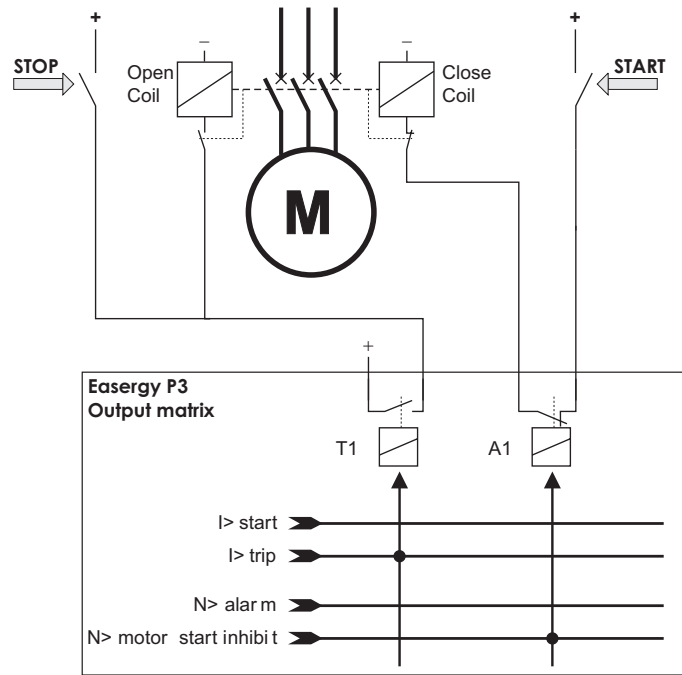

Figure 6.61: Application for preventing too frequent starting using the N> stage
Figure 6.61 shows an application for preventing too frequent starting using the N> stage. Closed coil wire has been connected through the normal close (NC) contact of the signal relay A1, and A1 is controlled with the N> start inhibit signal. Whenever the N> motor start inhibit signal becomes active, it prevents circuit breaker closing.